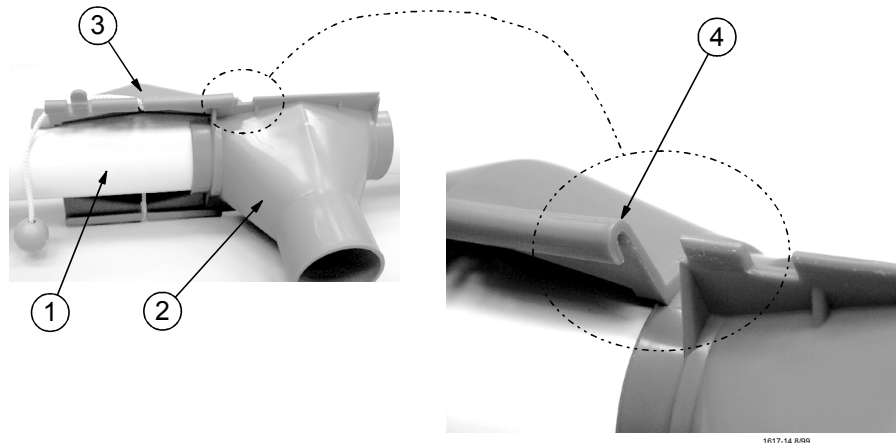

Figure 6. Assembling the Outlet Bottom to the Outlet Top
5. Use the Cord ends to hold the Rotary Slide in the full open position (cradled inside of the Outlet Top.) Engage the top edges of the Outlet Bottom into the open ends of the Outlet Top Tracks. Slide the parts together pressing the locking tab on the Outlet Top out of the way, allowing the Outlet Bottom to pass until completely assembled. The locking tab should then snap into place preventing the outlet assembly from sliding apart. See **Figure 6**.